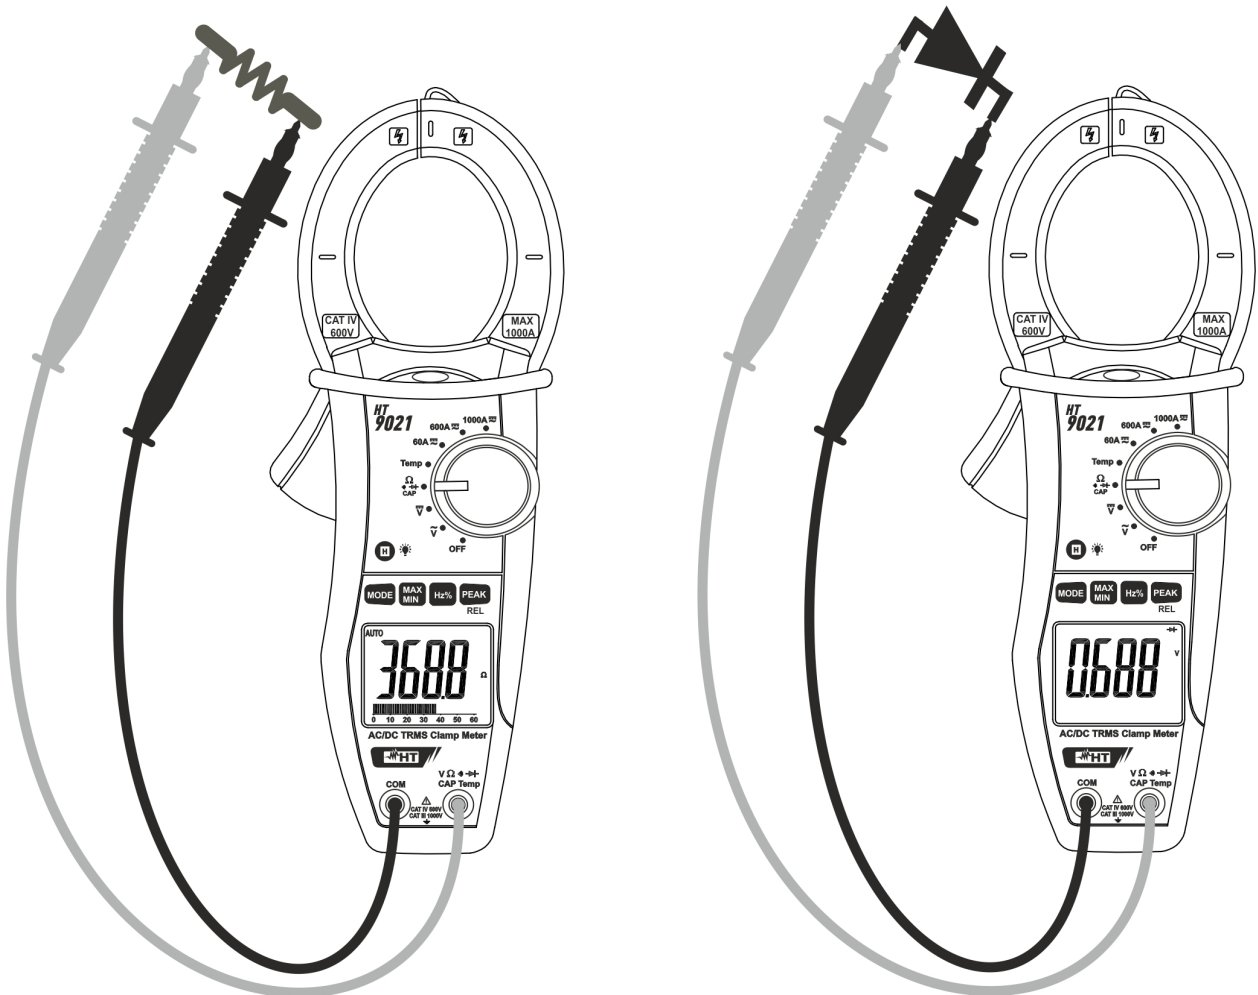

Fig. 6: Taking Continuity test and Diode test
3. Insert the red test lead plug into **VΩ** \rightarrow **CAP Temp** jack and the black test lead plug into **COM** jack and perform continuity test on the object under test (see Fig. 6 – left side). Buzzer emits sound if the measured resistance value is less about 60Ω
5. Connect the red test leads to the anode of diode on test and the black test lead on the cathode ones (see Fig. 6 – right side). Reverse position of test leads to reading reverse polarization voltage